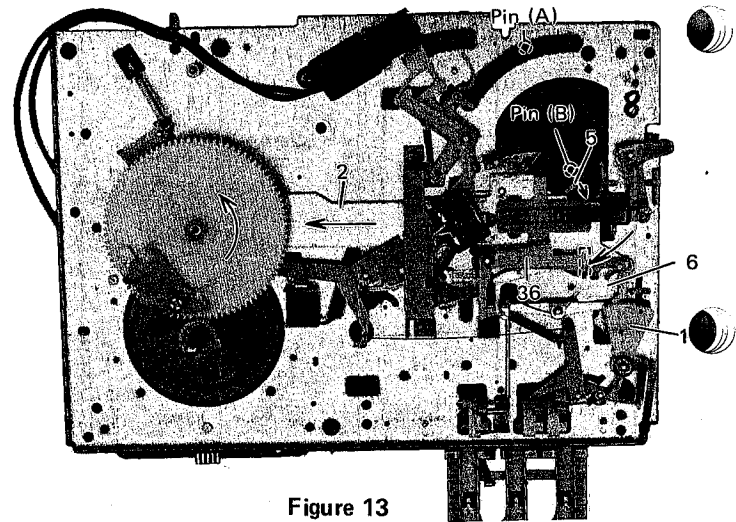

Figure 13
- (5) While carrying the Pickup Arm, Size-select Cam (36) stops the rotation of the Pickup Plate Assembly at 33 or 45 rpm point with the Stopper for size selection. Lead-in Click (5) falls down to free Pin (B.) (Figure 13)